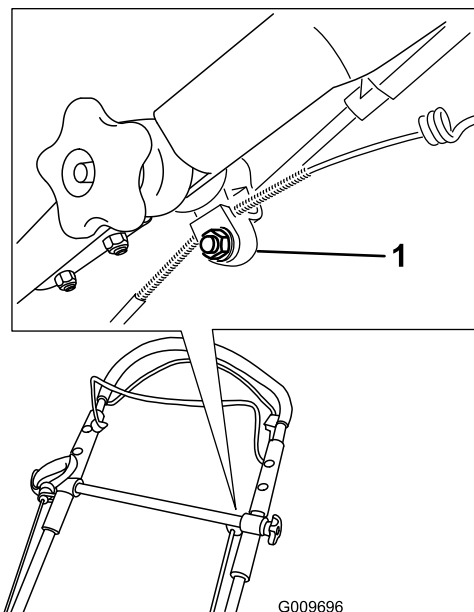

Figure 49
1. Loosen the nut on the cable mount (Figure 49).